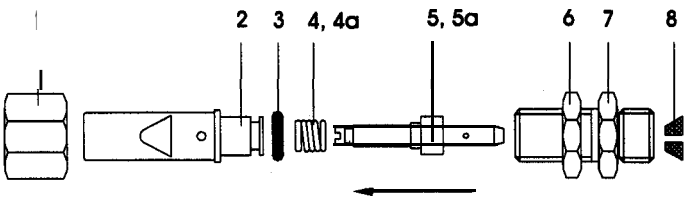

Figure 2
Refer to Figure 2
- Inspect seal (8). Replace if necessary. Ensure replacement seal is refitted with open end facing outward as shown in Figure 2.
- Holding pressure at activation pressure, tighten adjusting nut (1) until whistle activates.
- Apply Loctite 242 to lock nut and lock in place by adjusting locking nut (6).